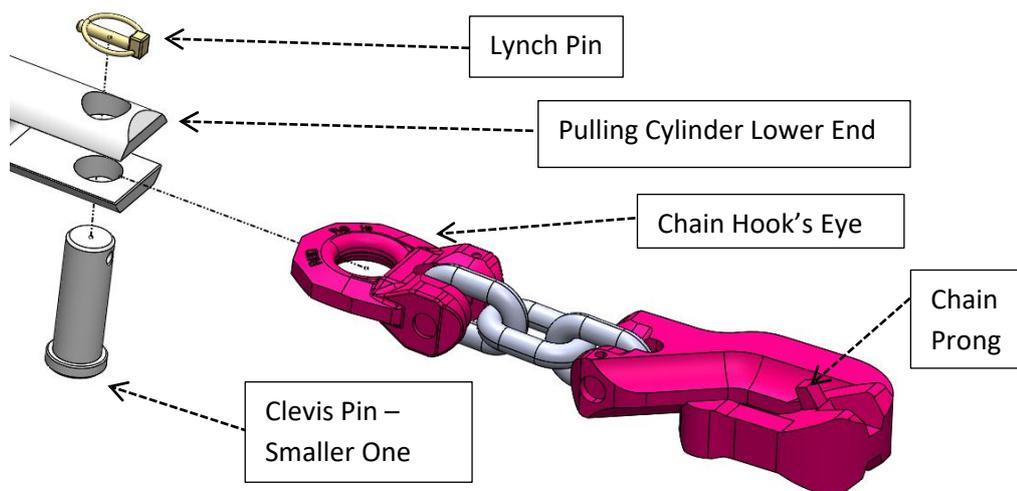
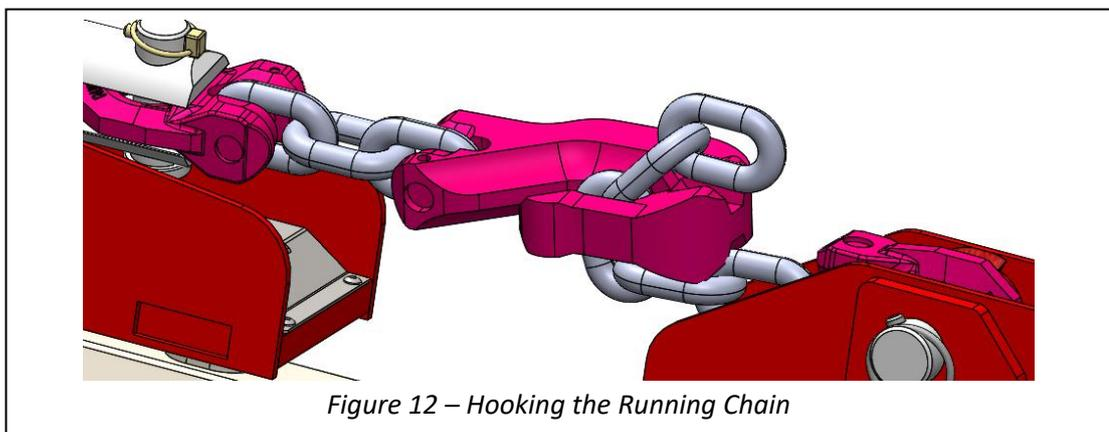

Figure 9 – Attaching Chain to Cylinder
Figure 12 – Hooking the Running Chain
5.17 On both sides, hook the running chain through the hook, using the shortest available link and let it hang down, checking that the chain is fully engaged into the hook (see Fig. 12), noting the prongs (see Fig. 9) fitting inside the chain links.